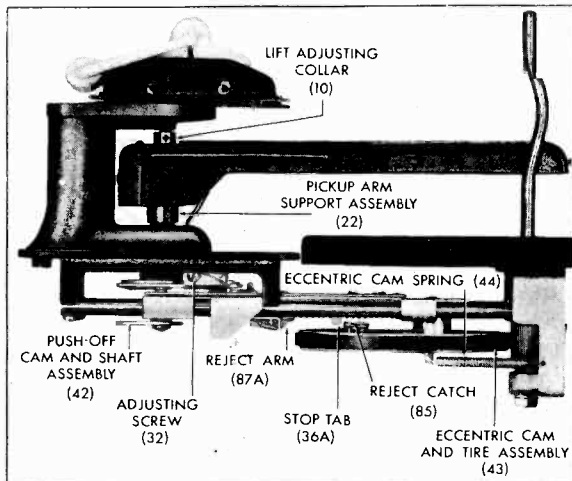

FIGURE 3.
This changer is designed so that the 10-inch set-down point, the 12-inch set-down point, and the pickup or trip point are simultaneously adjusted in a single operation. It is recommended that you make the adjustment at either of the set-down points. This adjustment is made by means of the adjusting screw (32) shown in figure 3. Turning this screw counter-clockwise will cause the arm to set down closer to the centerpost; turning it clockwise will cause the arm to set down further away from the centerpost. One complete turn on the screw will move the arm about $\frac{1}{4}$ inch.